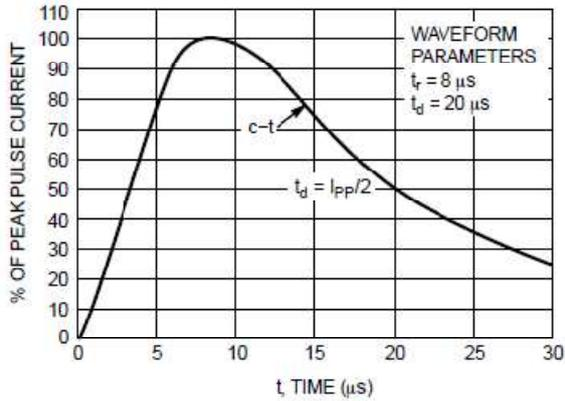

Figure 1. Pulse Waveform, $8 \times 20 \mu s$
1. Non-repetitive current pulse per Figure 1.
4. Pulse waveform per Figure 1.